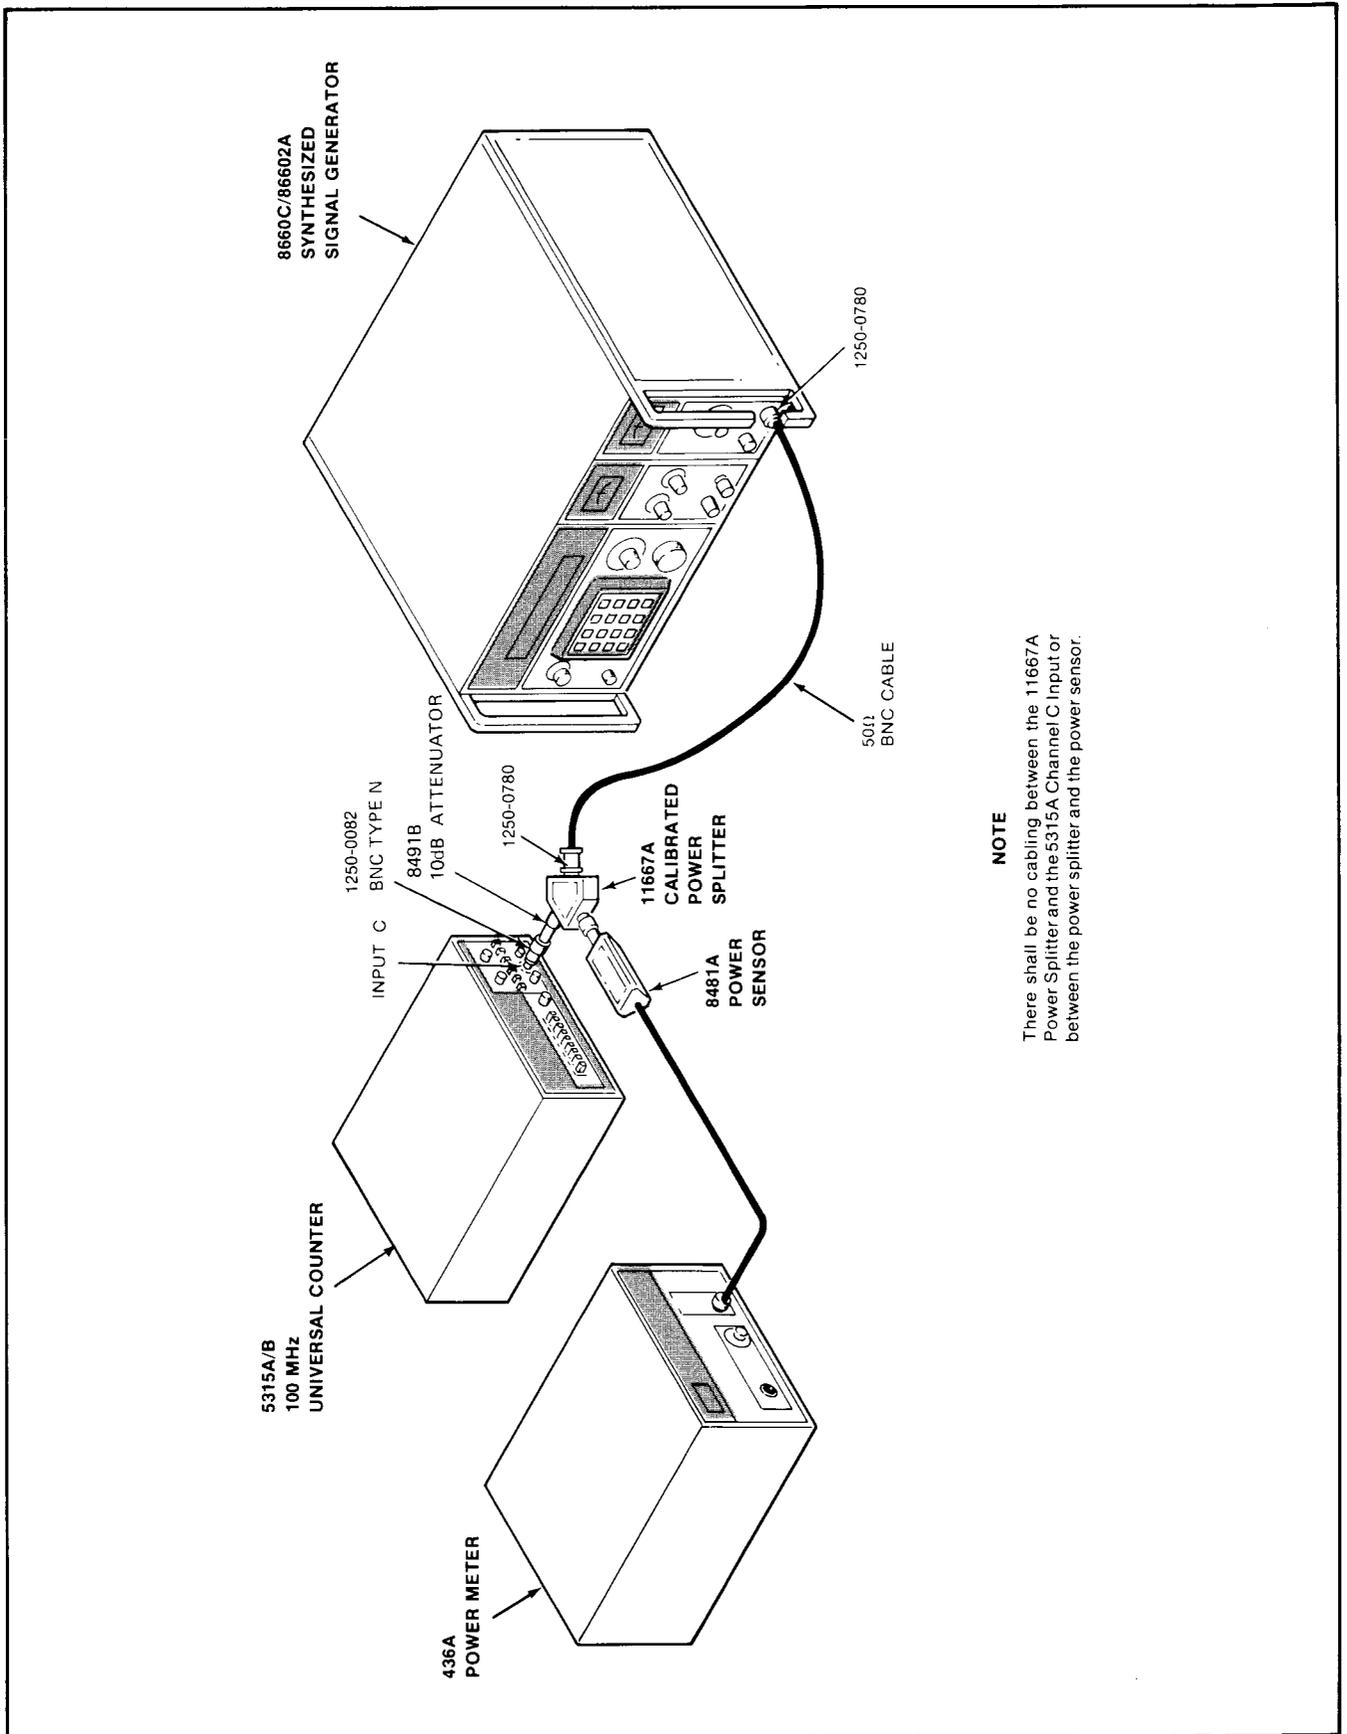

Figure 4-1. Channel C Frequency Response and Sensitivity Test Setup
**FUNCTION SELECT** ..... **FREQ C/GATE TIME (IN)**
- c. Connect the HP 8660C/86602A Synthesized Signal Generator, the HP 436A Power Meter, and the 5315A/B as shown in *Figure 4-1*.